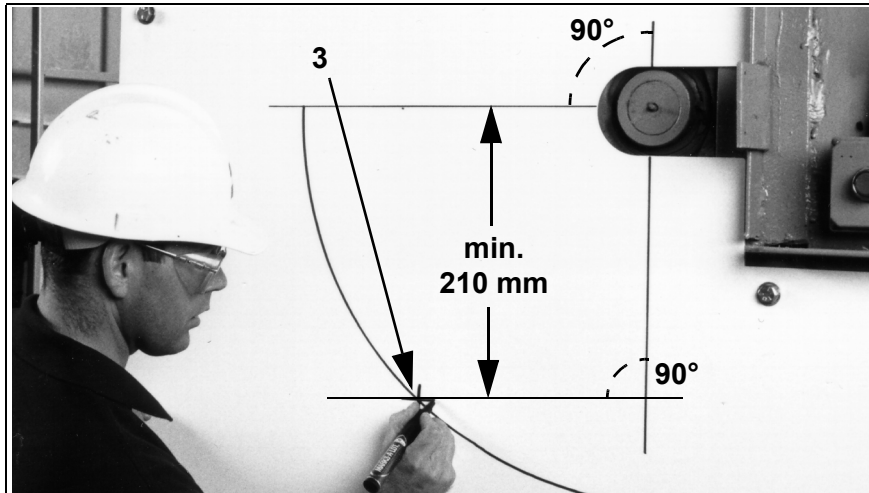

Fig. 2: Marking of the installation height
- Mark a horizontal line at a distance of 216 mm beneath the horizontal centre line of the head pulley. The cutting point with the arc marked in step 5 is the centre of the mainframe (3, Fig. 2).